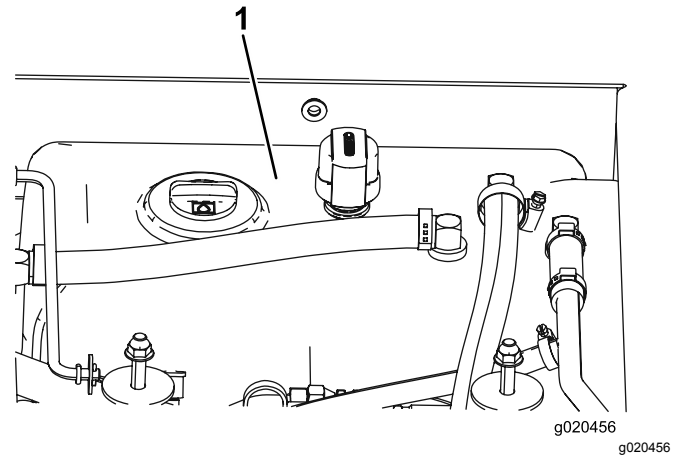

Figure 116
4. Fill the reservoir (Figure 116) with hydraulic fluid; refer to Changing the Hydraulic Fluid (page 75).